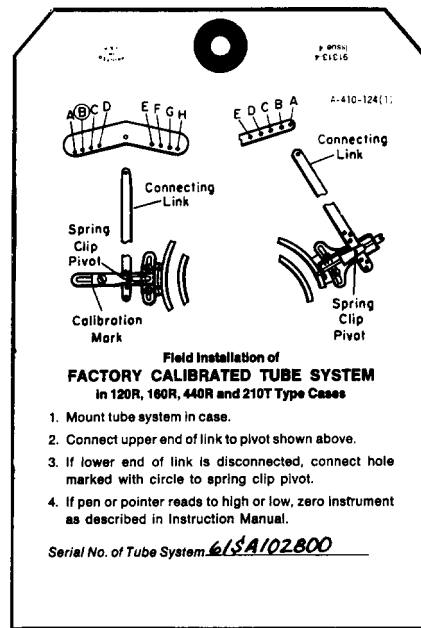

Figure 18. Field Installation Calibration Tag
* NOTE: The replacement pressure element has been factory calibrated with a specific link length and pivot selection. **Use this Link on the New Element and Refer to Yellow Instruction Tag for Important Information**, Figure 18.